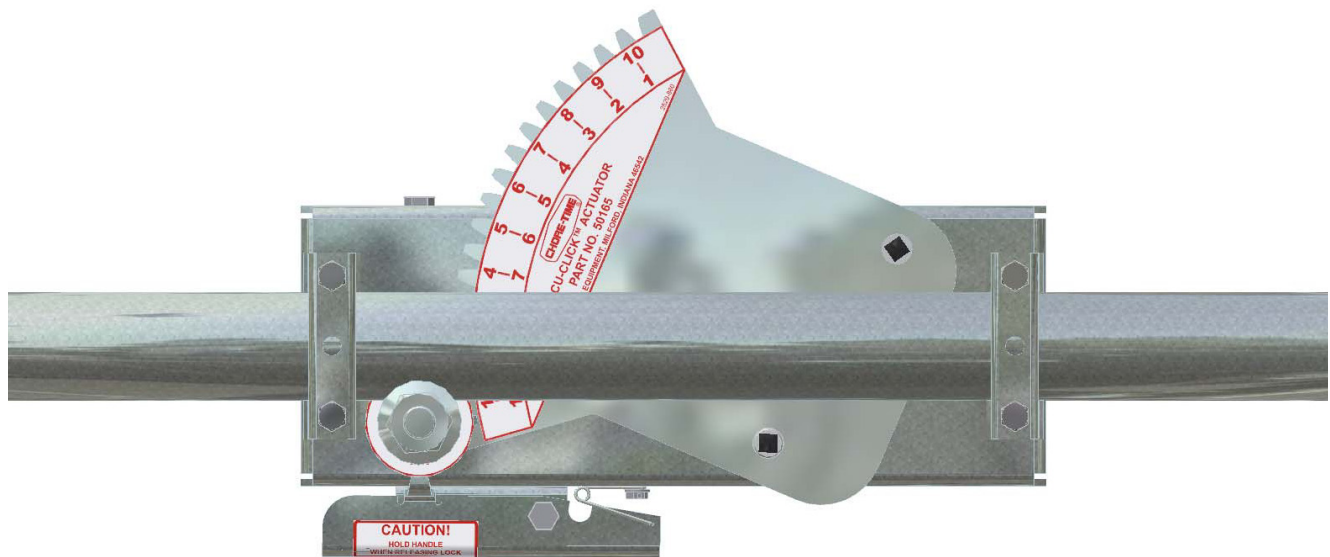

Figure 61. Actuator in Fully Open Brood Position
1. Once all actuators are installed operate actuators to the fully open brood position, **see figure 61.**